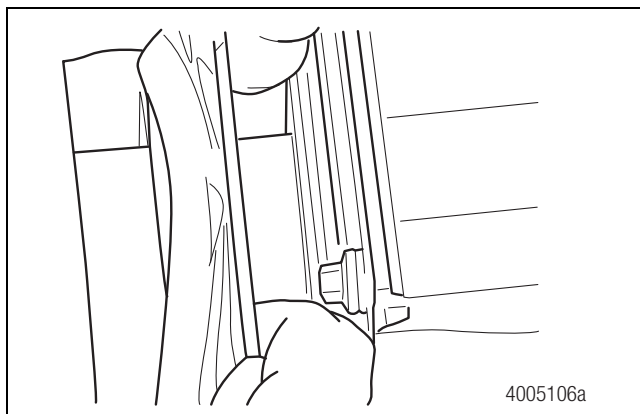

**Figure 5.14**
9. Carefully install the piston boot into the piston head groove. Verify that the boot is correctly seated in the piston head groove. Figure 5.14.